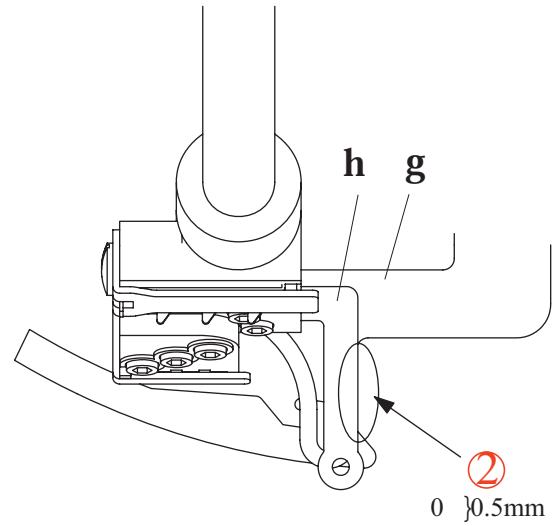
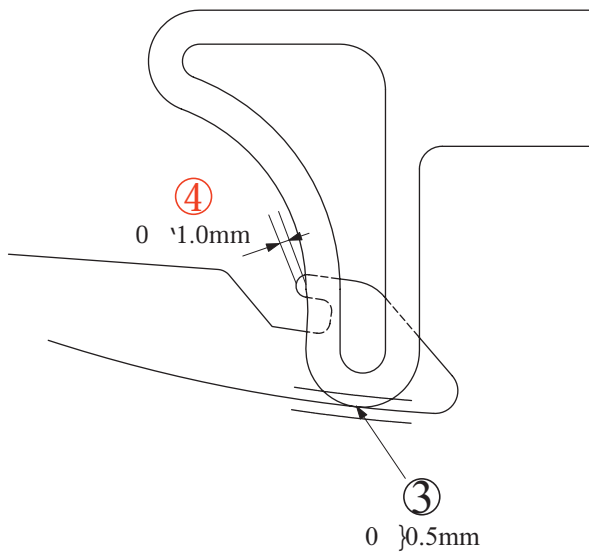

Fig.4
Fig.5
13. Check if the right side edge of the round thread guide "h" is lapped over the right side edge of the triangle thread guide "g". (See Fig. 4- ②) and if the top cover hook is positioned below the triangle thread guide as shown in Fig. 5- ③ & ④.
- 1. Loosen screw "f" and bring lever "a" forward or backward until you get  $0 \pm 0.5\text{mm}$  (See Fig. 5- ③ & ④).
- 2. Hold lever "a" and bring it to the right or left so that the right side edge of the triangle thread guide "g" comes just below the right side edge of the round thread guide "h". Those edges must be positioned in parallel. (See Fig. 4- ②).
- 4. Pull out lever "i" from the holder "d" and turn it clockwise or counterclockwise to adjust its length to be longer or shorter until you get 0~1.0mm. (See Fig. 5- ④).